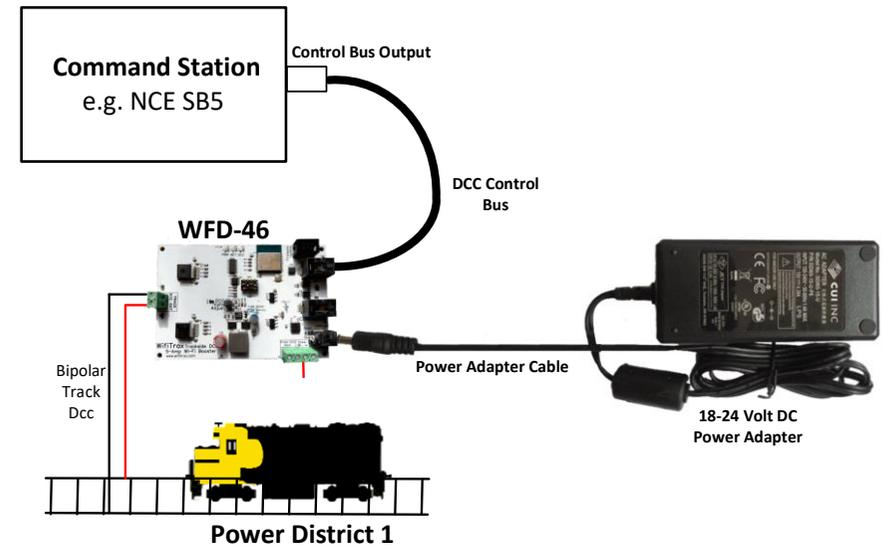
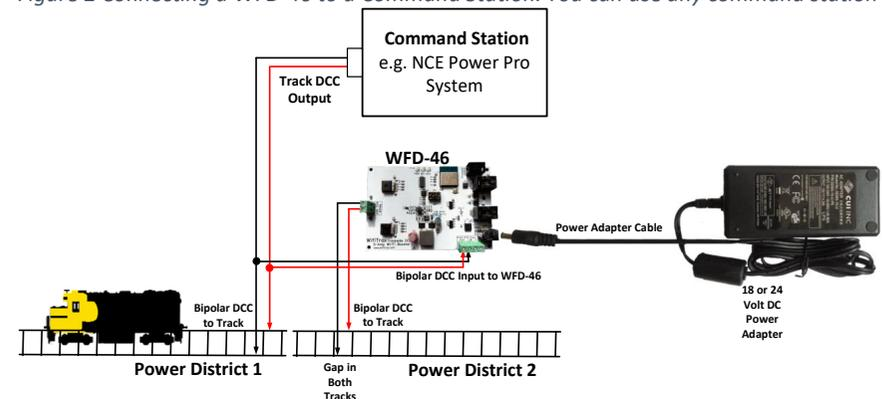

Figure 2 Connecting a WFD-46 to a Command Station. You can use any command station
Figure 3 Connecting a WFD-46 to a WFD-27 Wi-Fi Command Station/Booster. You can use the output of any booster.
- Connect the control bus of your existing DCC Command Station to the WFD-46 as in Figure 2, or
- (4) Once your device has connected to the WFD-46 Wi-Fi, open a browser such as Google Chrome and type the IP Address of the module:
- (1) Press the Home button and tap the settings icon on your Android phone or tablet:
- (2) Find the Wi-Fi option. On Android 7, you tap Connections on the left, then Wi-Fi on the right.
- (3) You see a list of available Wi-Fi Connections on the right. Look for one like wftrx\_WFD46\_1\_XXXXXXX\_7, where XXXXXXXX is the serial number of your unit that appears on its label. Tap on that – no password is required – and wait for it to connect.
- Use the track DCC (bipolar DCC) output from your existing command station/booster to your WFD-46 as in Figure 3. You then connect its track outputs to a new DCC Power District.
- (1) Connect your WFD-46 according to either Figure 2 or Figure 3. You can use Wifitrax or any manufacturer's compatible product to provide DCC as you wish. Just remember to distinguish between Control Bus inputs and Bipolar Track DCC inputs.
- (2) Set the DIP switches on your WFD-46 according to your requirements as in Table 1.
- Select the DCC Input Source to Control Bus or Bipolar Track DCC according to whether you are wired as in Figure 2 or Figure 3.
- (3) Connect a suitable Power Adapter to your WFD-46. If you are using Output Voltage Range 1 (9.5 to 15V) 18V is recommended. You can use somewhat less but too little voltage may not allow a full 15V DCC output voltage to be achieved. If you are using the Output Voltage Range 2 (12 to 20V), a 24V Power Adapter is recommended. **Do not exceed the maximum DCC voltage for the decoders on your layout.**
- (4) Turn on your command station and WFD-46 Booster. The Red LED should light immediately followed by either the blue or amber. The green will only light when you use the Wi-Fi features of your booster.